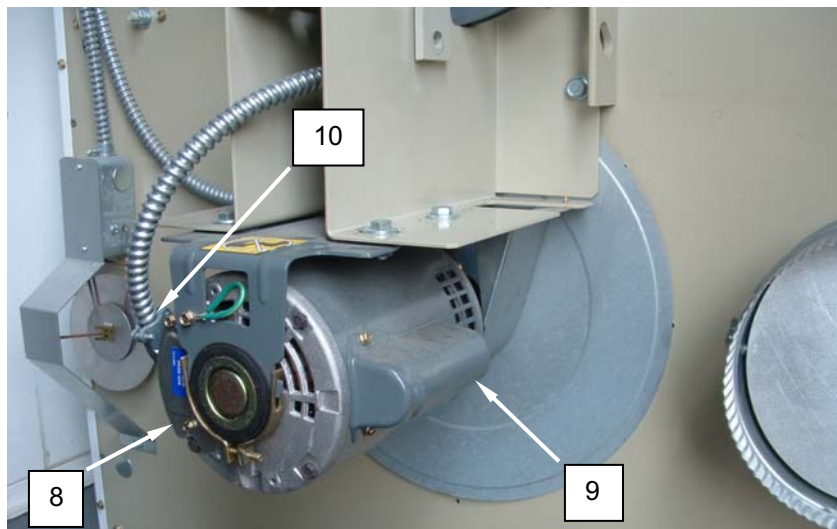

Figure 4. Replace the Fan Motor.
3. Remove screws retaining motor junction box cover (**Figure 4, Item 8**), and remove cover.
4. Tag and disconnect wiring from motor (**Figure 4, Item 9**).
5. Remove the conduit (**Figure 4, Item 10**) with wiring from the motor.
19. Remove screws retaining motor junction box cover (**Figure 4, Item 8**), and remove cover.
20. Install the conduit (**Figure 4, Item 10**) with wiring into the motor junction box (**Figure 4, Item 8**).
21. Connect the wiring to the motor (**Figure 4, Item 9**) as tagged.
22. Install the motor junction box cover (**Figure 4, Item 8**) and retain with screws.